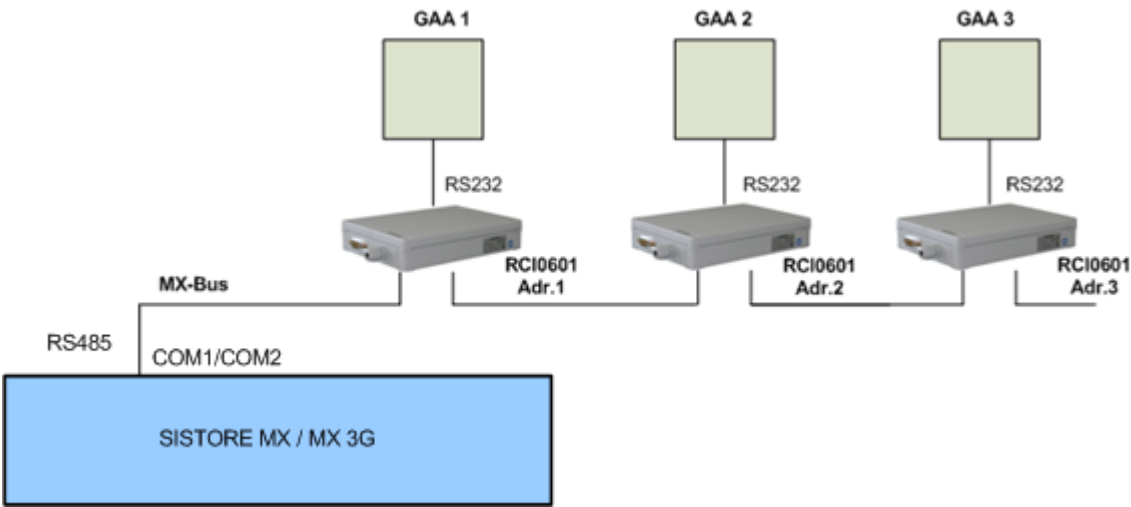

Fig. 23 MX Multi-Channel Box RCI 0601 and ATM system overview
1. Connect the MX Multi-Channel Box to the SISTORE unit (see Fig. 23).